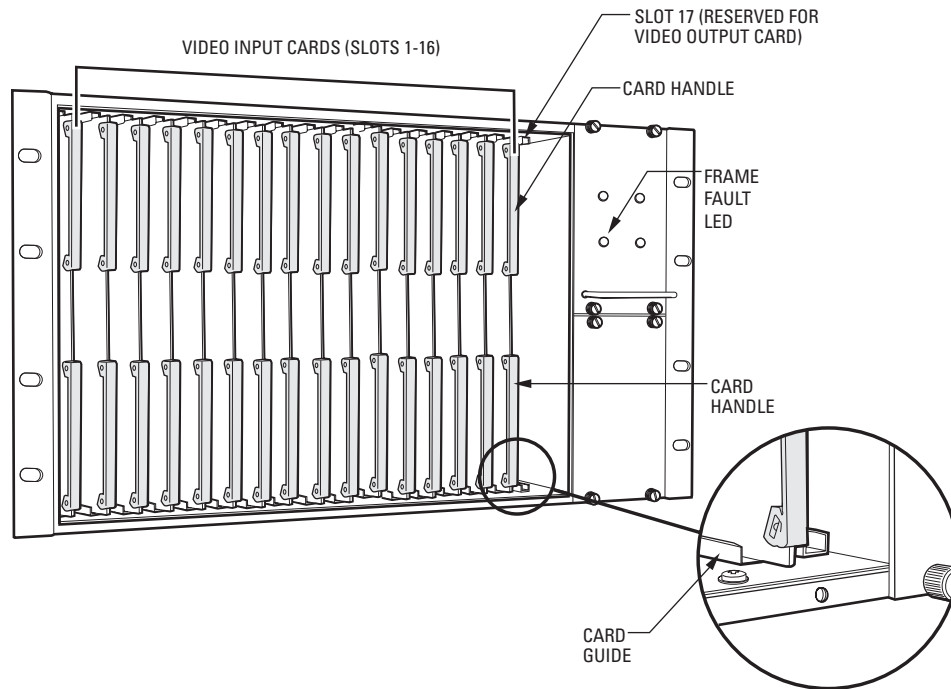

Figure 28. CM9760-VCC Video Input Card Installation (Slots 1-16)
2. Insert the CM9760-VCC card into the desired slot (slots 1-16) as follows (refer to Figure 28):